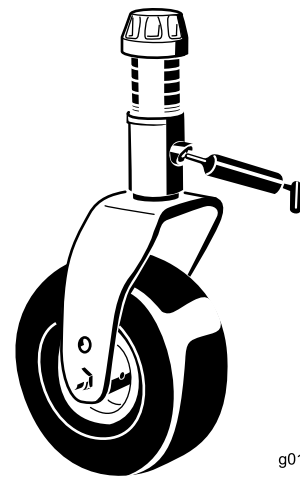

Figure 44
- Castor fork shaft bushings (2) (Figure 44)